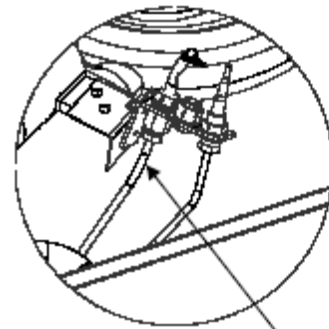

Figure 9
3.1.5 Solid Top Burner - To Replace Injector (Figure 9)